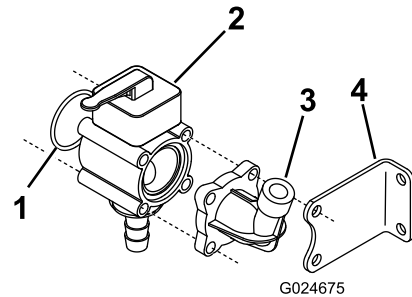

Figure 4
- Install the O-ring, manual valve assembly, previously removed pressure-gauge port, and the stabilizing bracket using the 4 threaded rods and retained flat washers and nuts; refer to Figure 4.